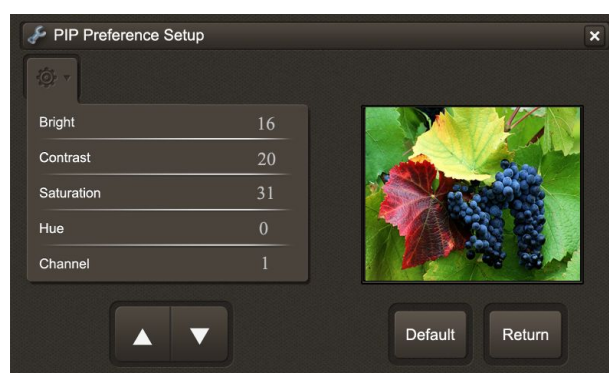

Figure 2-6
1. The PIP setting interface as shown in figure 2-6: